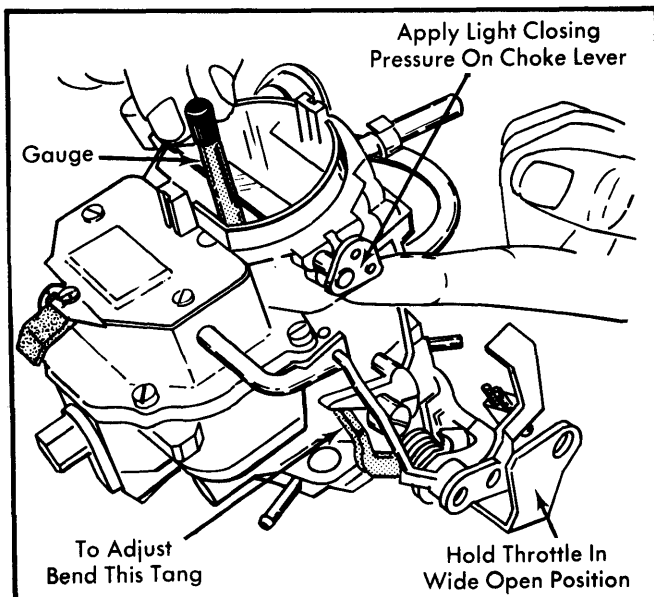

Fig. 9 Choke Unloader Adjustment
1) Open throttle valves wide open. Apply light closing pressure to choke valve. See Fig. 9.